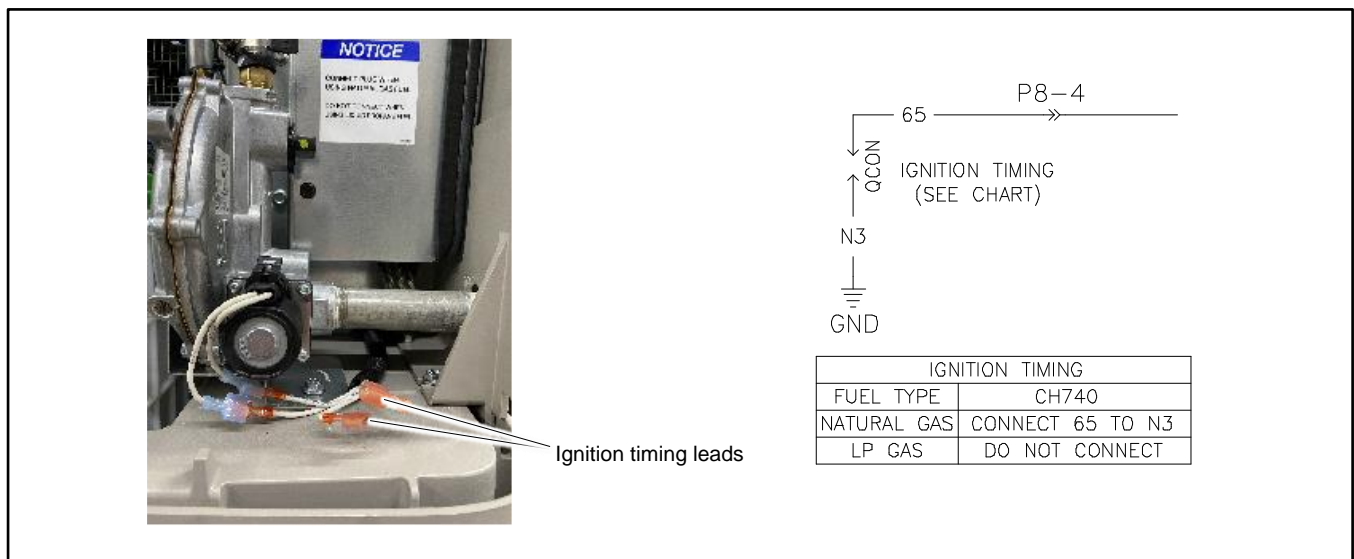

Figure 101 Ignition Timing Leads
6. Find the ignition timing leads 65 and N, located near the regulator. See Figure 101.
- a. For natural gas (NG), connect lead 65 to lead N3.